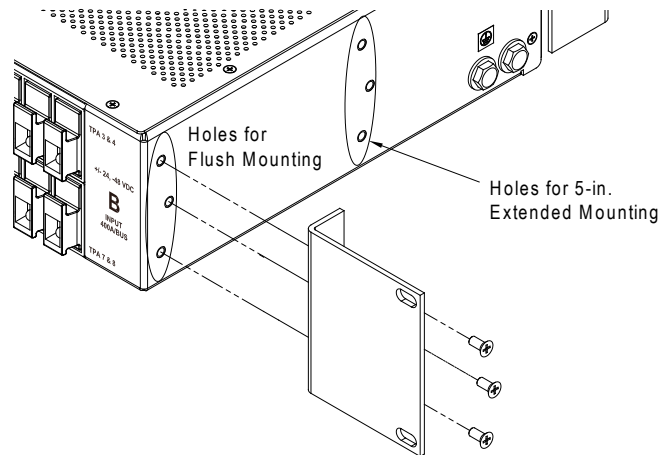

Figure 2 - Bracket Orientation
1. If necessary, remove the three screws and reposition the brackets on the sides of the distribution panel, as shown in Figure 2.